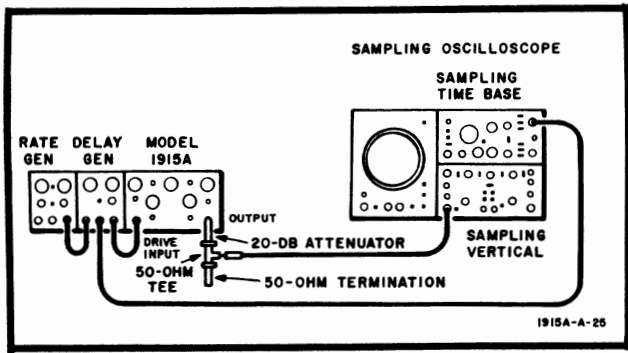

Figure 5-4. Sampling Oscilloscope Test Setup
- a. Connect equipment as shown in Figure 5-4.